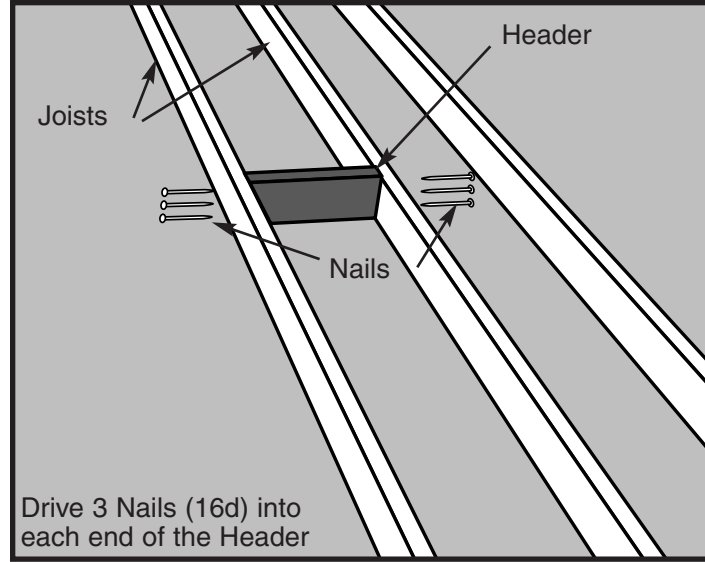

Figure 12
- STEP 3.** Place one of these headers at one end of your chosen location (See Figure 12). The header must fit snugly between the joists. Hammer it into position if necessary; if it is more than 1/16 inch too long, trim it. If it is more than 1/16 inch too short, cut another piece.
- STEP 4.** Square the header to one joist and drive 3 nails (16d) through the joist and into the header. Check for squareness and drive 3 nails (16d) through the other joist and into the header (See Figure 12). **It is very important that header board is vertically square as well as horizontally square to side joists.**